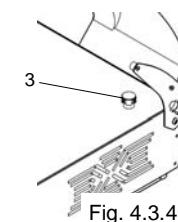

Fig. 4.3.4
5. Remove the suction cap (ref. 3 fig. 4.3.4).